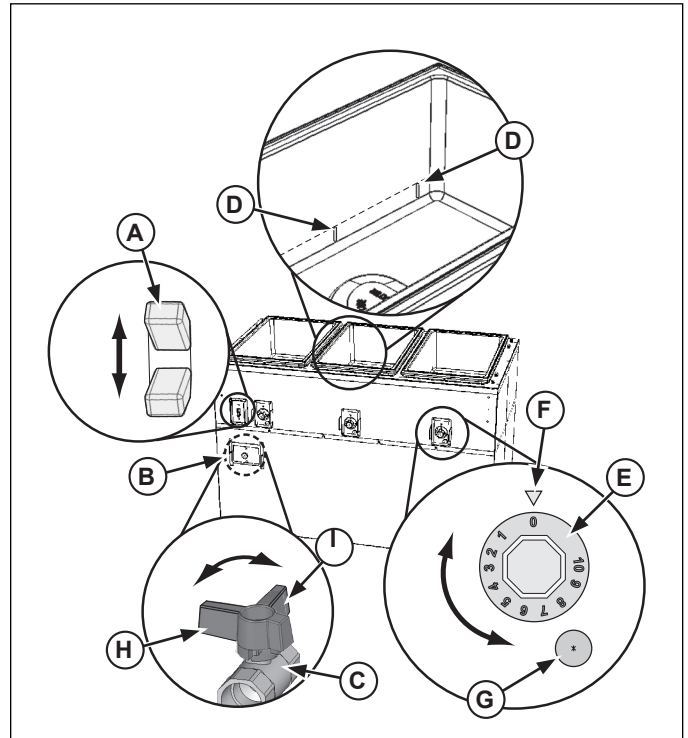

Figure 2. Deluxe Hot Station Controls
1. Open the valve access door (B) and check that the drain valve (C) is in the closed position (H). See Figure 2.
2. Fill the well to the correct level marks (D) with clean fresh water. Correct level is about 1" (2.5 CM) of water. Do not over fill.
4. Preheat the water in the wells by covering wells with empty food containers or covers. Turn the power switch (A) to the "ON" position and set the heat control(s) (E) to the maximum setting. Preheat for 45 minutes. The water will be boiling.
7. Set the heat control(s) (E) to maintain proper hot holding temperature for food safety. Regularly check food temperature.
- (A) **ON/OFF** switch. Set switch to the up position for "ON". Set switch to the down position for "OFF". The switch will illuminate when in the "ON" position.
- (B) **ACCESS DOOR** for drain valve. Open or remove to access the drain valve.
- (C) **DRAIN VALVE**. Used to empty water from the well(s).
- (D) **DRAIN VALVE CLOSED** position. When the valve is in this position the drain is closed.
- (E) **DRAIN VALVE OPEN** position. When the valve is in this position the drain valve is open.
1. Open the valve access door (A) and check that the drain valve is in the closed position (D). See Figure 2.
3. Turn the power switch (A) to the "ON" position. This unit does not have an adjustable temperature setting. Allow the unit to run for approximately 30 minutes. For the best performance when using ice with this unit, allow unit to run for approximately 2 hours before adding ice. This will help the ice remain solid.